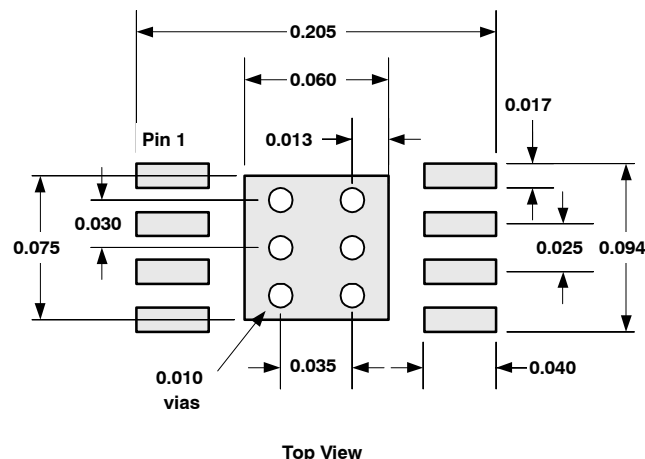

Figure 37. PowerPAD PCB Etch and Via Pattern
1. Prepare the PCB with a top side etch pattern as shown in Figure 37. There should be etch for the leads as well as etch for the thermal pad.